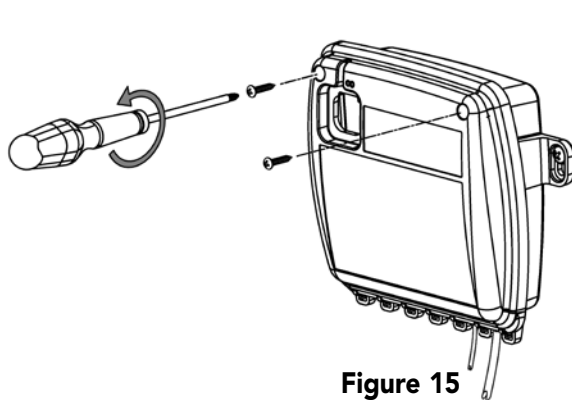

Figure 15
1. Using a Phillips-head screwdriver, remove the two cover screws from the front of the ChromaSteam3 control box (Figure 15), and remove the cover from the unit (Figure 16).